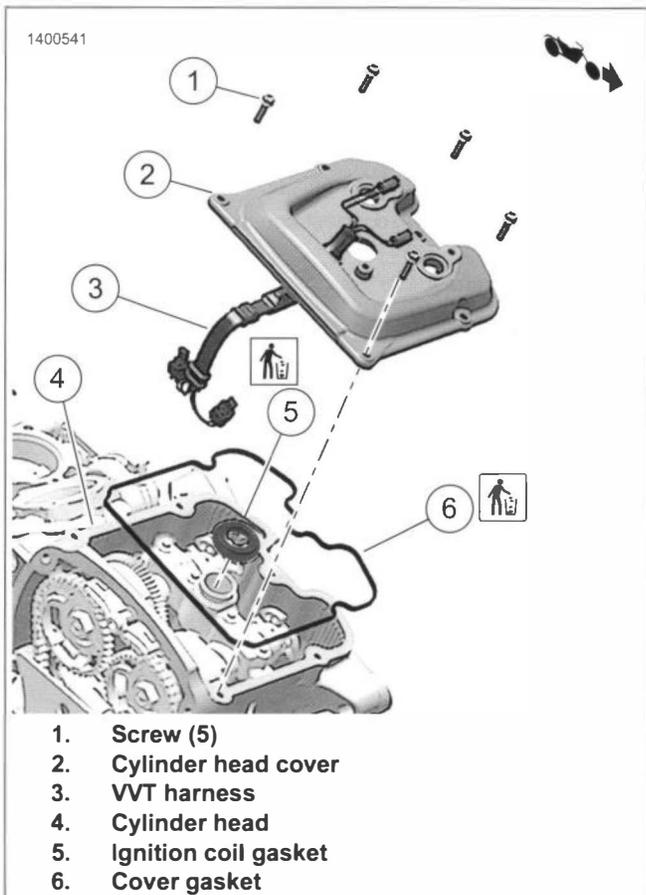

Figure 8-88. Cylinder Head Cover
1. See Figure 8-88. Remove screws (1).
2. Remove cylinder head cover (2).
- a. Route VVT harness (3) up through cylinder head (4).
2. See Figure 8-88. Route VVT harness (3) up through hole in cylinder head cover (2).
4. See Figure 8-88. Install new ignition coil gasket (5) to cylinder head (4).
- a. Clean groove in cover (2) from all residual oil and debris.
- b. Install new cover gasket (6) to cover.
- c. Install cover with screws (1). Tighten.